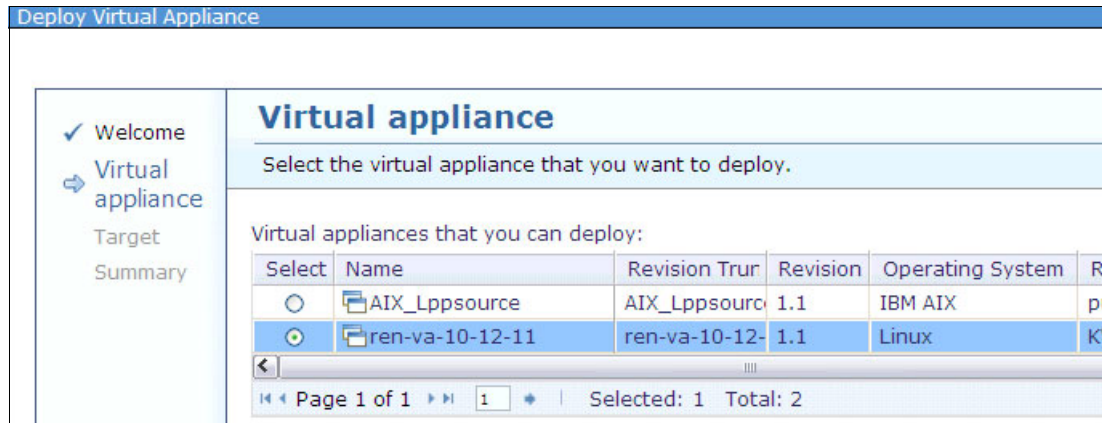

Figure 9-126 Virtual appliances catalog
3. Select the appliance that you want to deploy as shown in Figure 9-126, then click **Next**.
Remember: You can see the appliances that are available from different image repositories, as shown in Figure 9-126.